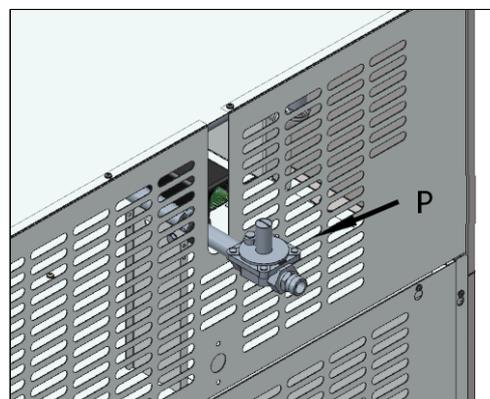

Fig. 5.13
- Finally, the pressure regulator **P** must be replaced (Fig. 5.13). Ensure that the pressure at the gas valve inlet matches the one stated on the specification nameplate.